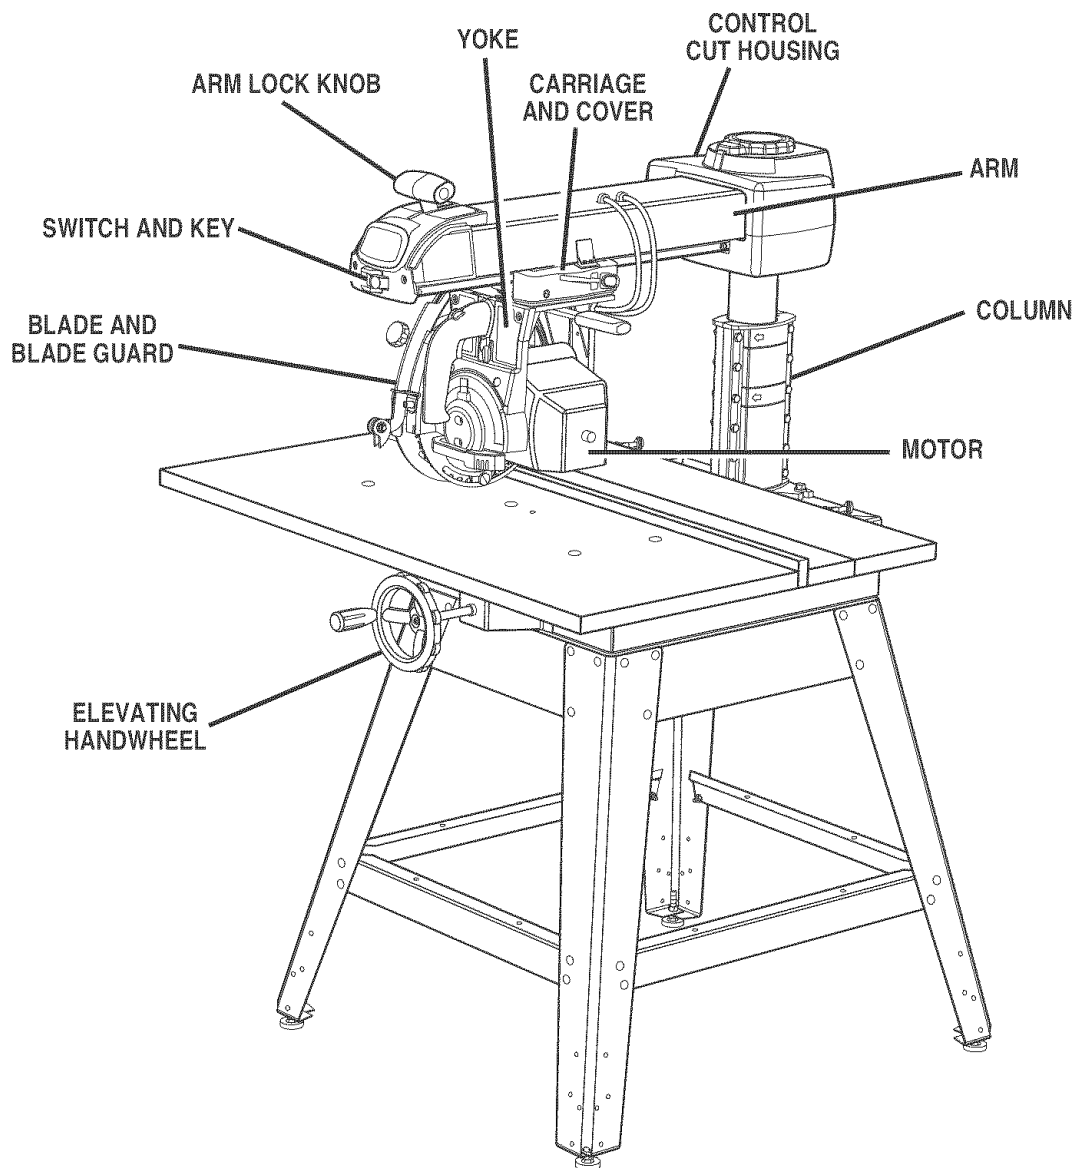

Fig. 9A
See Figure 9A.
See Figures 9A - 9D.
**ARM** - The assembly extending from the column, which supports the yoke, the motor, and the blade. See Figure 9A.
**ARM LOCK KNOB** - Controls arm angle. Use to set the arm to the positive stops at 0°, 45° left, and 45° right and to lock the arm in place. Located on top of arm at front. See Figures 9A and 9B.
**BLADE GUARD ASSEMBLY** - Protective unit over the blade, with a riving knife, anti-kickback pawls, an upper blade guard, a lower outer blade guard, and a lower inner blade guard. Always keep each item in place unless specifically instructed to move it. See Figures 9A and 9D.
**COLUMN** - Upright housing at the back of the saw, consisting of a column support and a column tube. The column tube can be raised or lowered with the elevating handwheel at the front of the saw. *See Figures 9A and 9B.*
**SWITCH WITH KEY** - Powers the blade motor. Placed on the front of the arm for easy access. To lock the switch once it has been pressed to **OFF**, remove the yellow key. Place the key in a location that is inaccessible to children and others not qualified to use the tool. *See Figures 9A and 9C.*